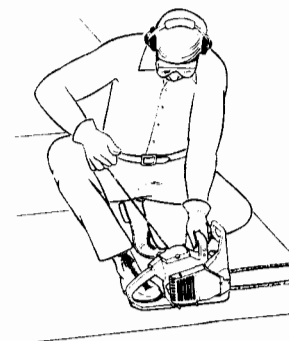

Fig. 7
7. Place the saw on a firm flat surface. Hold saw firmly as shown (Fig. 7).